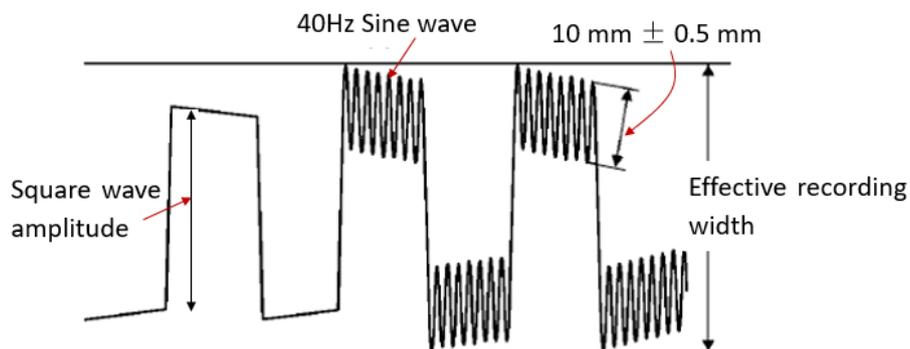

Figure 9, A 40 Hz, 10 mm sine signal is superimposed on a square wave signal with a frequency of 2 Hz and a variable amplitude
- 4) A square wave signal with a frequency of 2 Hz and a variable amplitude is superimposed on the sinusoidal signal, and its amplitude is changed so that the sinusoidal signal drifts within the entire effective recording width. Such a mixed signal is input to the DUT ECG, when the sinusoidal signal drifts, the amplitude value of the sinusoidal signal is measured at different positions of the drift. As shown in Figure 9, the deviation between the measured values at different positions should not exceed $\pm 5\%$ ($10\text{ mm} \pm 0.5\text{ mm}$).